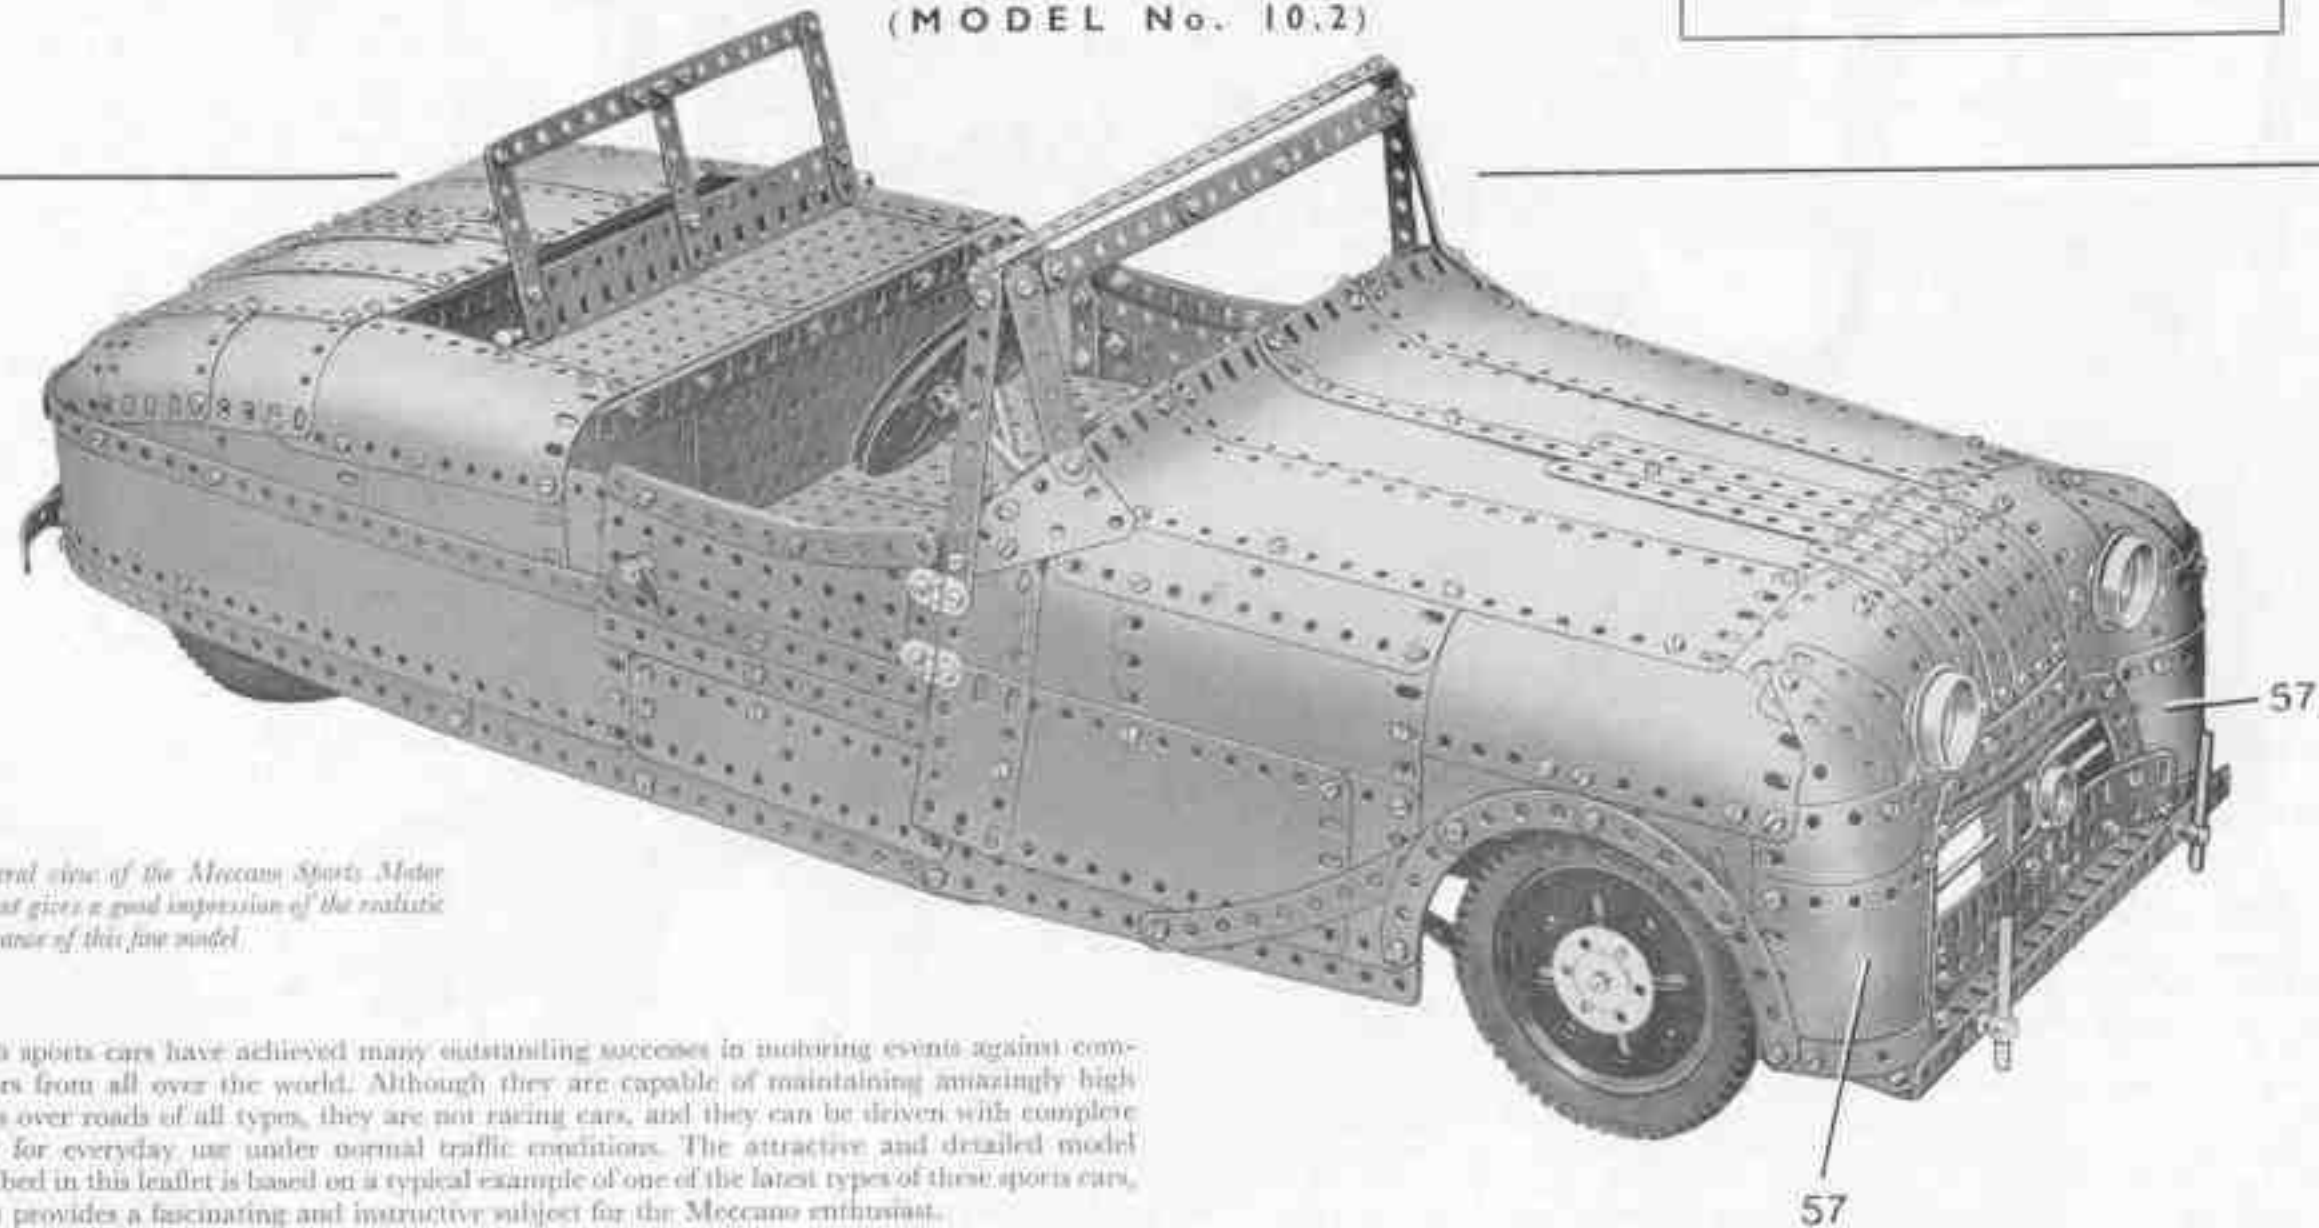

FIG. 1
The general arrangement of the Plates that form the sides and the top of the body is shown clearly in Figs. 1, 9, and 10. The curved front is formed by a  $3\frac{1}{2}'' \times 2\frac{1}{2}''$  Flexible Plate (57) on each side, and the lower corners of these are connected by a  $7\frac{1}{2}''$  Flat Girder. A  $9\frac{1}{2}''$  Flat Girder is